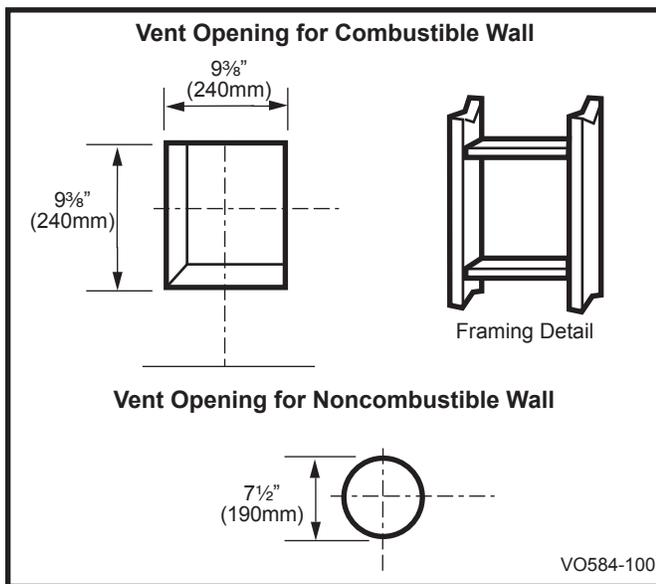

Fig. 24 Locate vent opening on rear wall.
Locate and cut vent opening in the side wall. It may be necessary to first position the fireplace and measure to obtain the hole location. Depending on whether the wall is combustible or noncombustible, cut the opening to size per Figure 24.
**Combustible walls:** Cut a rectangular hole measuring 9⅜" H x 9⅜" W (240 x 240mm) through the exterior wall and frame. Frame in the opening per Figure 24.
**Noncombustible walls:** Cut a round hole measuring 7½" (190 mm) diameter through the exterior wall and frame. (Fig. 24)
1. Establish vent hole through the wall. (Fig. 24)